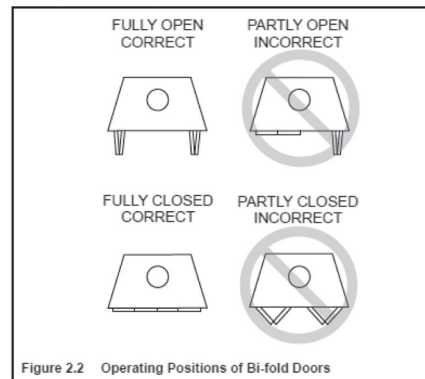

Figure 2.2 Operating Positions of Bi-fold Doors
- Refer to Figure 2.2 for how to properly use them.